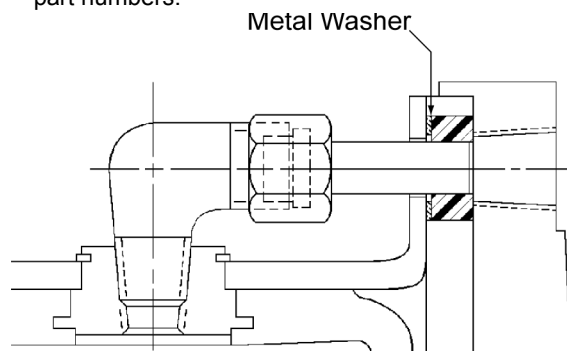

Figure 7
2.6.5 Install the air connection gaskets onto the air tubes. The metal backup washer is to be positioned toward the elbow (away from the spider). See **Figure 7**.
- 2.7.9 Install the air connection gaskets onto the air tubes. The metal backup washer is to be positioned toward the elbow (away from the spider). See **Figure 7**.